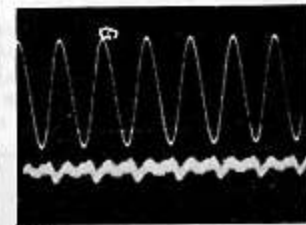

Fig 2.
- Fig 2. Power amplifier only. 10kHz, 10W, 8Ω, 0.004% No crossover.